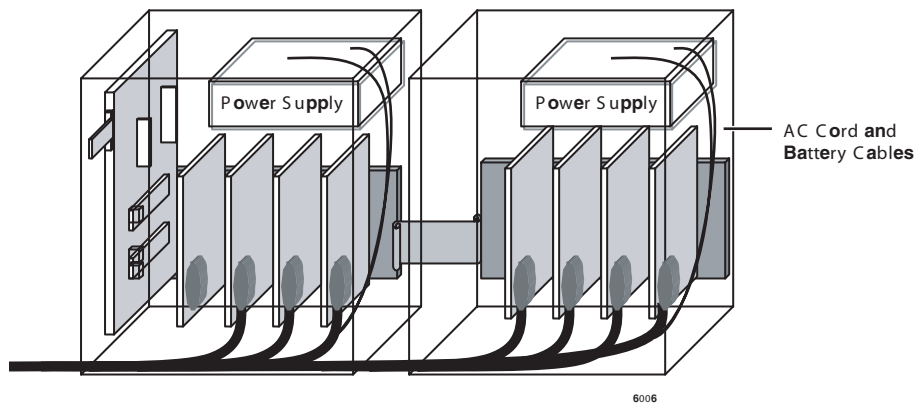

Figure 2-19 Single Direction Cable Routing
- ✦ **Single Direction Cable Routing** – Cabling from the Expansion Cabinet can run through the Base Cabinet and exit from the Base Cabinet (see Figure 2-19).